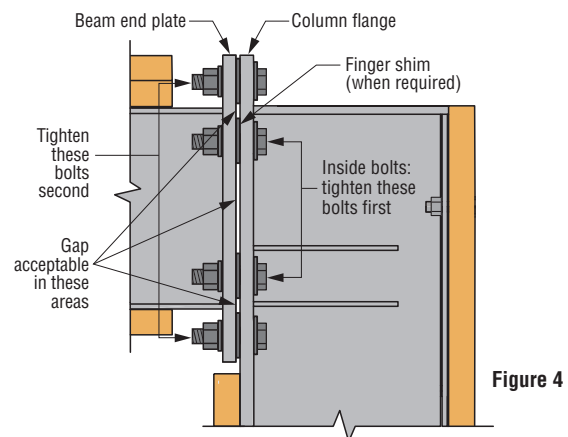
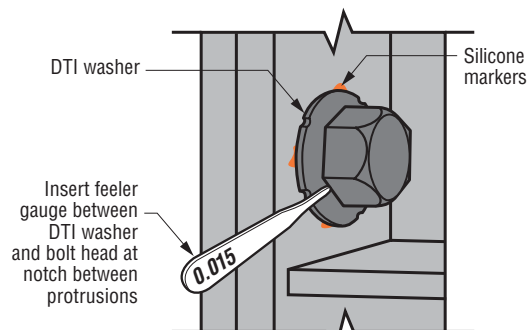

Figure 4
Figure 5
3. Once all bolts are snug-tight, calibrate the DTI washers by fully tightening one of the four inside bolts (*see Figure 4*). Proper installation pretension is reached when the 0.015" feeler gauge can no longer be inserted all the way into the bolt shank at three or more of the five notches between the silicon markers (*see Figure 5*). Remember to make sure the bolt head does not turn while the nut is turned.
4. Tighten all bolts, starting with the most rigid part of the joint (*typically the three remaining inside bolts, and then the four bolts above and below the beam*) (*see Figure 4*). The proper installation pretension is reached when the amount of squirt from the silicon markers matches the washer from the calibration in Step 3. When tightening bolts, make sure the bolt head does not turn while the nut is turned.
The finger shims provided may be used to adjust the connection between the beam end plate and column flange. For a gap of $\frac{1}{8}$ " or less under the bolt head (*see Figure 4*), draw plates together by tightening the bolts until plates are in firm contact. If the gap exceeds $\frac{1}{8}$ ", shims must be installed. Gaps away from the bolt heads are permitted. If the connection plates cannot be drawn together sufficiently by tightening the bolts, additional shims are required. Total thickness of shims under each bolt head must not exceed $\frac{1}{4}$ ". To install shims, loosen connection bolts and slide provided shims around the bolts where necessary. Make sure shims do not protrude beyond the outer edges of the connection plates, and re-tighten bolts.